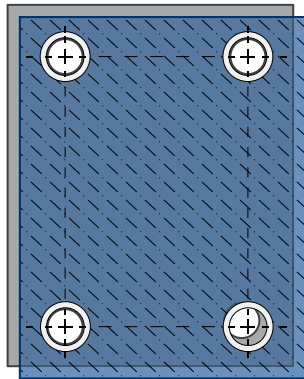
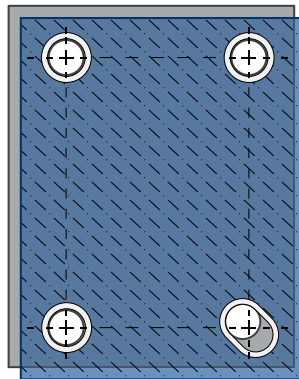

Figure 3
Figure 4
There are (4) fastening points in a rectangular sequence. This leads to the possibility of misalignment along the x and y axis (*Figure 3*). The product designer has opted to place an Oval Compression Limiter diagonally in one of the corners (bottom right) to account for the potential misalignment (*Figure 4*). During assembly, the fastening points with the (3) Round Compression Limiters can be secured first, then any misalignment between the plastic component and the mating component will be accommodated by the Oval Compression Limiter at the final fastening point.